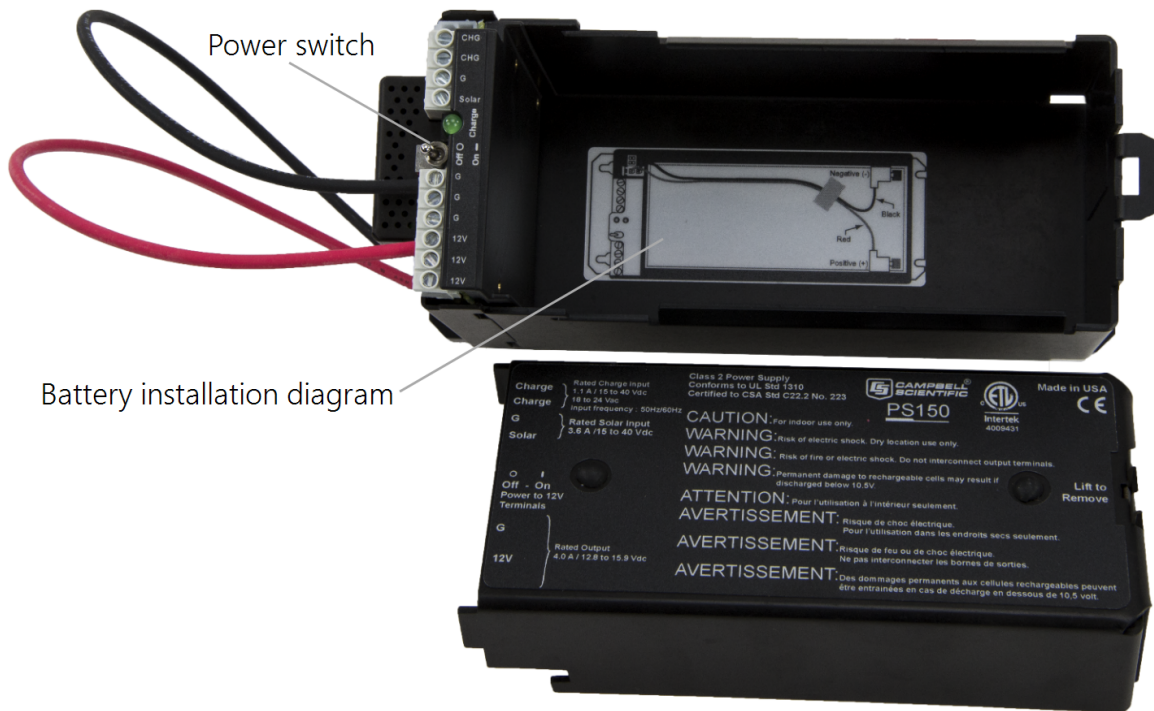

FIGURE 6-44. PS150 with lid open
1. Move the PS150 power switch to the **OFF** position (FIGURE 6-44 (p. 62)).
2. Remove the cover from the PS150 by sliding the latch up at one end of the cover and sliding the cover down and out (FIGURE 6-44 (p. 62)).
3. Install the battery according to the diagram (FIGURE 6-44 (p. 62)).